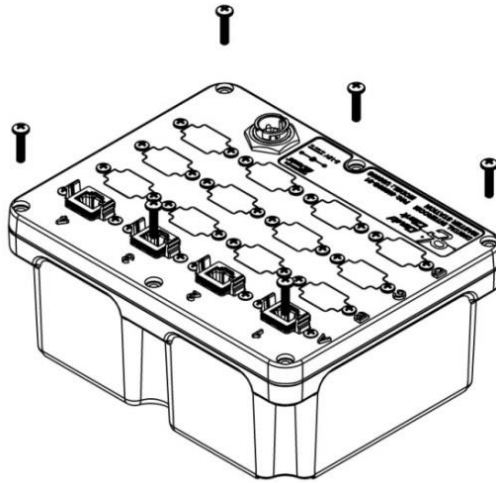

Figure 11.1 Main Cover Assembly
- Remove the six main screws on the Master Station enclosure (see Fig. 11.1)
2. Remove the six main cover screws (**Figure 11.1**).
4. Place entire assembly back into enclosure bottom (**Figure 11.1**).